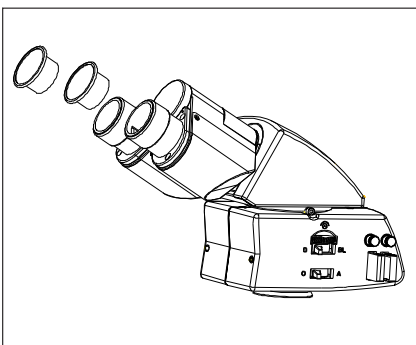

Fig.18
1. Remove the protective caps from the observation tube.(Fig. 18)